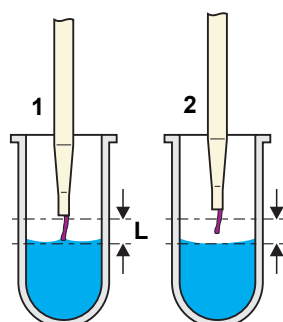

Fig. 3-20 Filament hanging from the tip
- A filament hanging from the tip, causing a risk of contamination of the work area when the tip moves on to dispense the liquid into the destination container (see Fig. 3-20 "Filament hanging from the tip", 3-26).